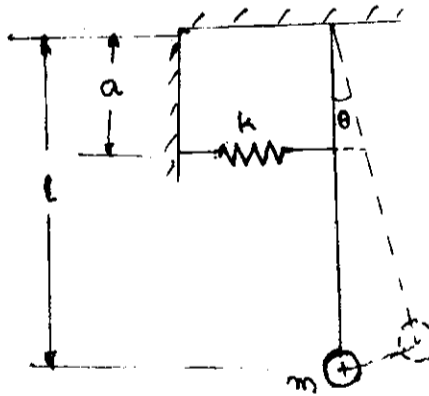

Fig.Q.2(b)
b. Find the natural frequency of the spring controlled simple pendulum shown in Fig.Q.2(b). Neglect the mass of the rod. (06 Marks)
- c. For the system shown in Fig.Q.2(c) find mass  $m$  if the system has a natural frequency of 10Hz.